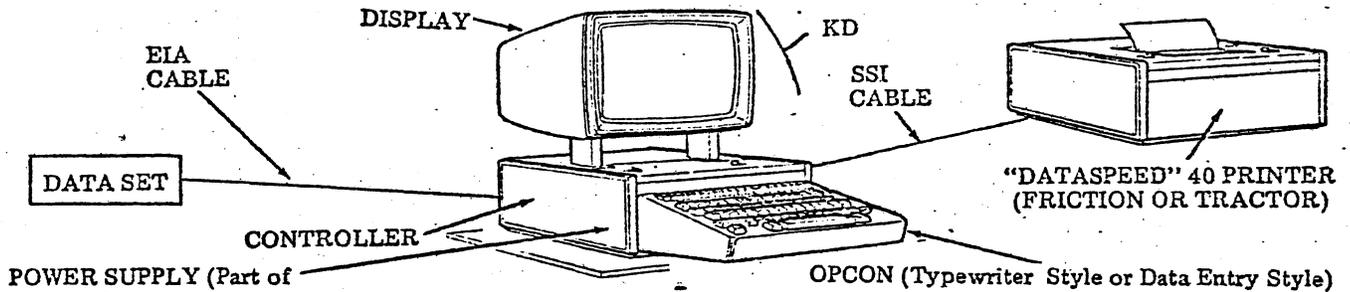

Fig. 2—Example of a Single Display Station (SDS)
3.01 The monitor (display), operator consoles (opcons) and printers (80-column and 132-column) of EL4084 and Supplements 1 and 2 are used in the SDS. The internal modem of EL4084, Supplemental 4 can be used in the SDS. See Fig. 2.